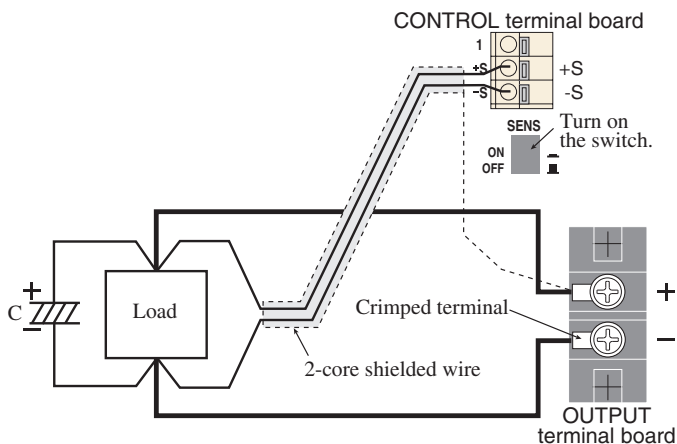

Fig.4-4 Remote sensing connection
3. As shown in Fig.4-4, connect the +S terminal and the + (pos.) terminal of the load, and connect the -S terminal and the - (neg.) terminal of the load.